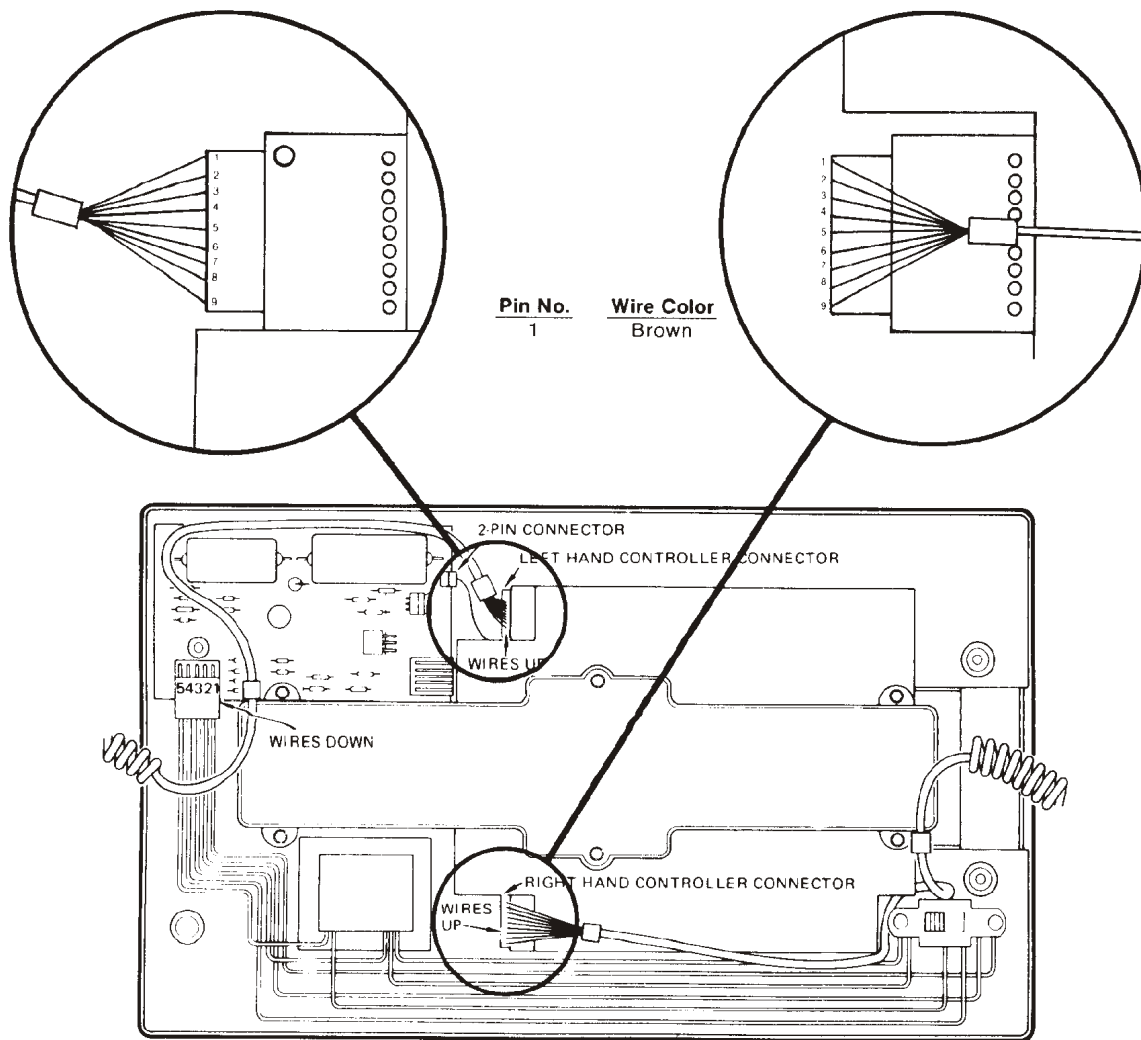

Figure 6
- (1) Turn Console upside down and loosen (6) Phillips head screws.
- (2) Turn Console right-side up, allow the (6) screws to fall out, then pull upon the ON/OFF glamour cap to remove. **DO NOT remove the RESET button.**
- (3) Remove top case and slip Hand Controllers through openings.
**NOTE:** When re-assembling Console, replace Hand Controller tray first. Refer to Figure 6 for position of Controller wires.
- (5) Lift Logic Board straight up. Carefully disconnect Hand Controllers (if a problem exists in just one Controller, it is not necessary to remove both of them). When replacing Connectors to Logic Board, the Connector must be inserted according to the illustration in Figure 6, page 11.